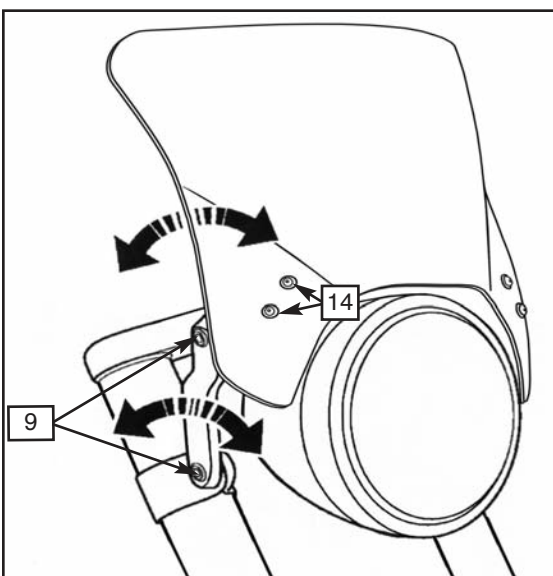

Figure 7
15. Adjust the Windshield to the desired position and securely tighten the 4 Screws (9). **(6mm Hex Wrench) Figure 7**
16. Securely tighten the 4 Screws (14) and Nuts (15) in the Windshield Brackets **(4mm Hex Wrench and 10mm Socket) Figure 7**